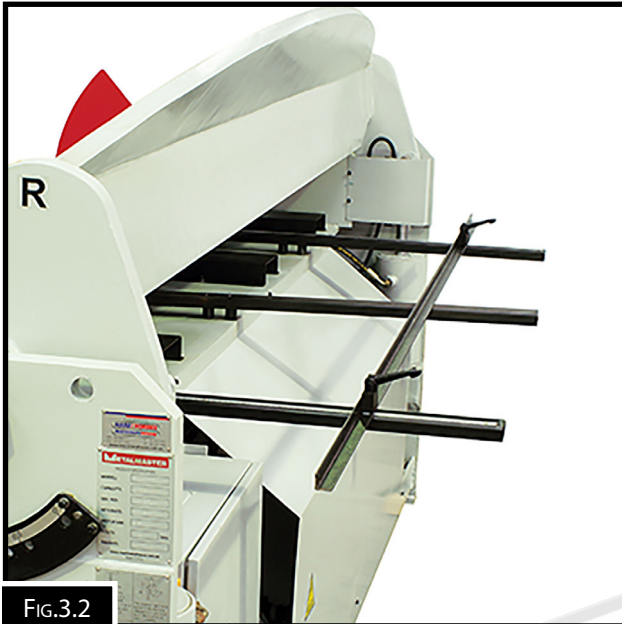

FIG.3.2
- Bolt on the arms that support the back gauge. Ensure they are square to the table. (Fig 3.2)